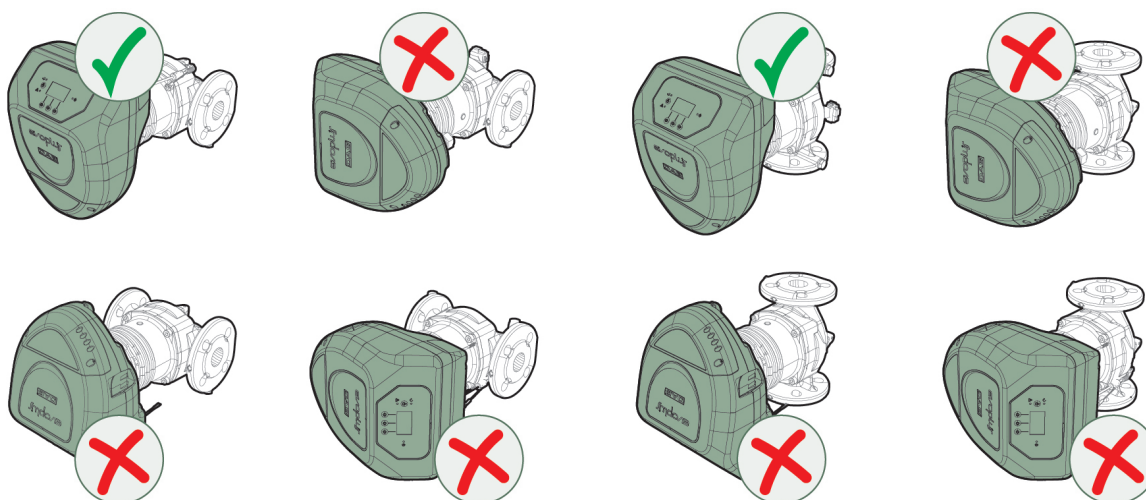

Figure 5
The user interface can be turned to different positions from the standard one, see Figure 5
- if the ambient temperature is higher than that of the liquid, there is a risk of condensation forming. The condensation can and must be discharged through at least **one of the three drainage holes** on the motor body, see the Figure 5